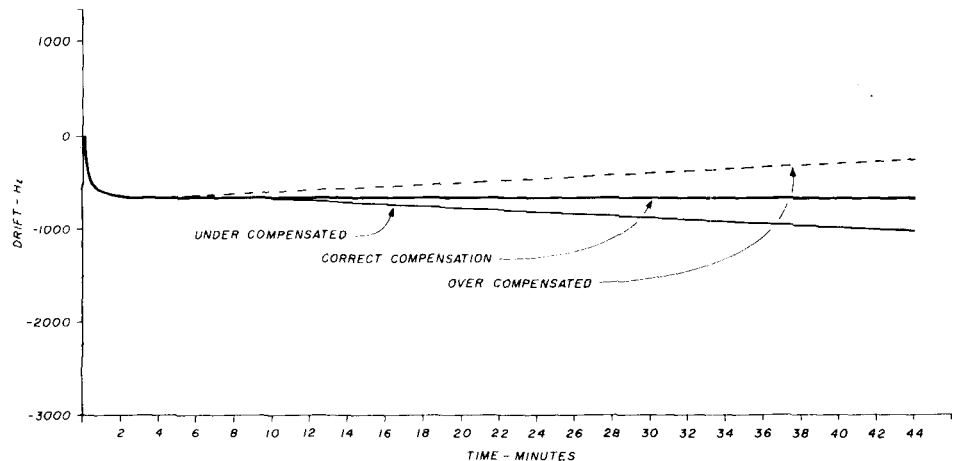

fig. 4. Typical results of the oscillator drift tests. Incorporating the drift correction circuit described by PA0KSB will reduce the frequency change to zero.
A series of tests was performed using NTC capacitors with various temperature coefficient values. Finally, a 51-pF, N330 capacitor was selected. An additional 24-pF, NTC 150 capacitor was added in parallel to bring the circuit temperature coefficient within range of C4. C4 is a key circuit element because it allows the effective temperature coefficient to be adjusted, and therefore the amount and direction of oscillator drift. The proper setting was found after a number of drift tests were performed over a period of a few hours using different settings of C3 and C4. The results of these tests are shown in fig. 4.
fig. 4. Schematic diagram of the 555 connected as an astable multivibrator and the waveforms at different points in the circuit (B). In applications where a 50 per cent duty cycle is required, the circuit shown in (C) can be used. In this case, CR1 effectively shorts out R_B during the capacitor charge time.